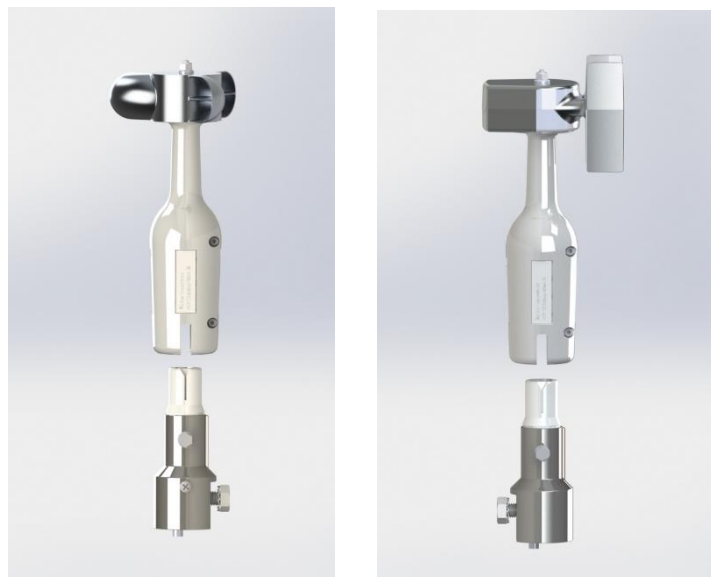

Figure 3 | Renders of the mounting adapter, cable plug, and Hybrid XT sensors
6. Mount the Hybrid XT vane and anemometer on the appropriate sides of the mast (Figure 3).